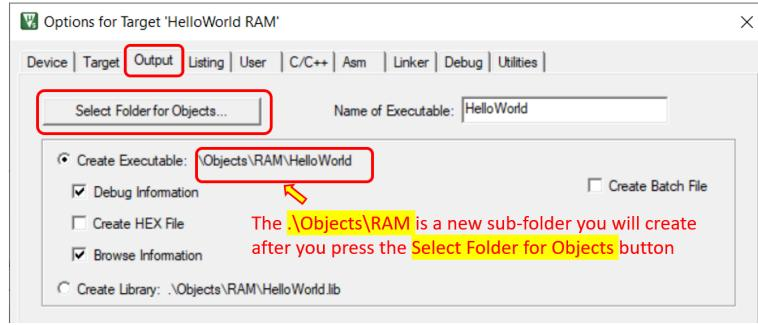

Figure 7.33: Keil IDE: Target Options Output Tab Configuration for RAM Target
8. Configure the Output tab so that the created executable will be put into a sub-folder of .\Objects\RAM (see Figure 7.33).